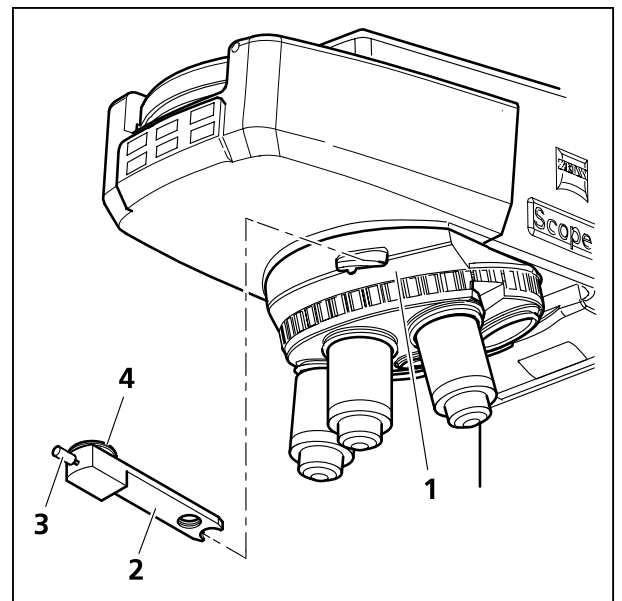
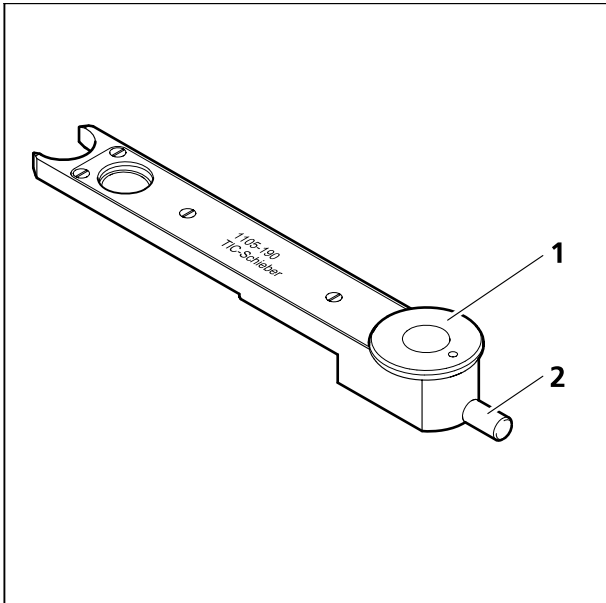
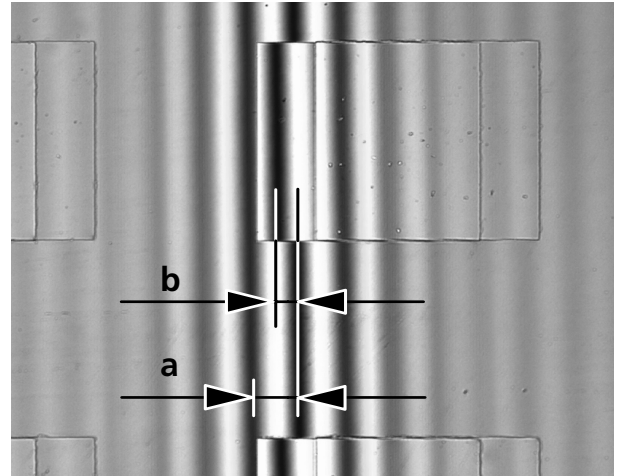

Fig. 4-12 Compensator compartment 6x20 with C-DIC slider 6x20
Fig. 4-13 TIC slider 6x20
Fig. 4-14 Interference stripes
(3) Reflected light DIC, preferably for objectives Epiplan 5x to 100x and LD-Epiplan 10x to 100x
(4) Reflected light C-DIC
- Slide the C-DIC slider (Fig. 4-12/2) in the compensator compartment 6x20 (Fig. 4-12/1).
- Put the sample down, focus and turn the control knob (Fig. 4-12/4) on the C-DIC slider so the structure of interest is visible with maximum contrast. No further stage rotation is necessary.
- The contrast can be optimized by adjusting the control knob (Fig. 4-12/3) on the C-DIC slider.
(2) Instrumentation
(3) Adjusting reflected light TIC
- Slide TIC slider 6x20 in the compensator compartment 6x20 (Fig. 4-12/1). You will see chromatic interference stripes in the field of view. Using the control knob (Fig. 4-13/2) of the TIC slider, move the black interference stripe by sight to the middle of the field of view.
- In order to choose the structure to be measured, turn the knob (Fig. 4-13/1) on the TIC slider until the interference stripes are vertical to the direction in which the object is broken down (see Fig. 4-14). The interference stripes can be shifted with the aid of the control button (Fig. 4-13/2).
The values a and b (see Fig. 4-14) are determined with the aid of the eyepiece graticule micrometer or with the micrometer eyepiece.